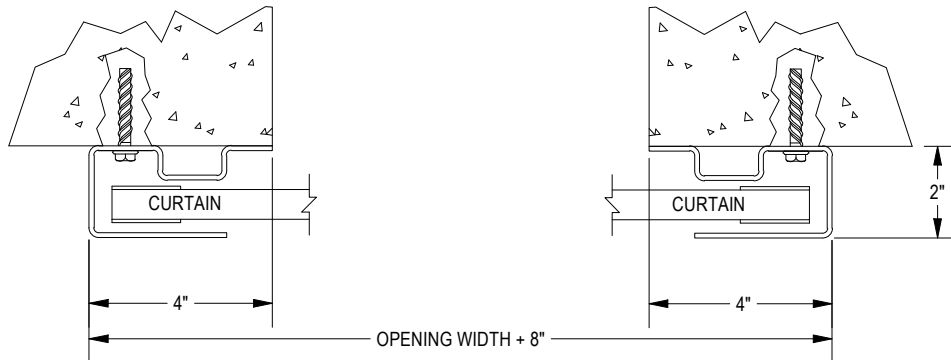

FIGURE 9: CONCRETE/MASONRY JAMBS
- **MASONRY JAMBS:** $\frac{1}{4}$ " X 1- $\frac{3}{4}$ " WEDGE BOLT. SEE PAGE 9 FIGURE 9.